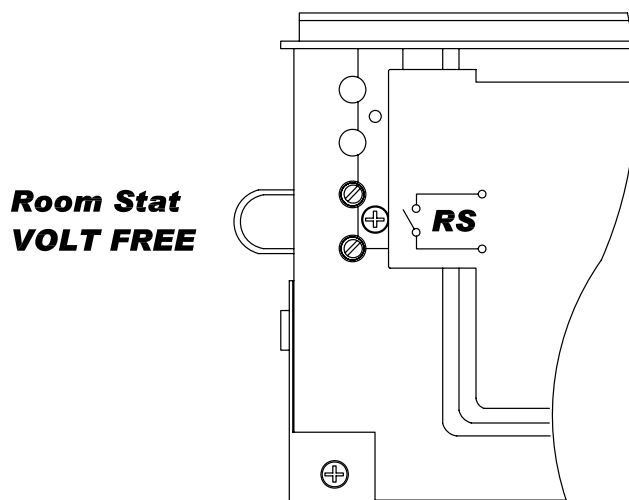

Fig. 59
**7.27.6** Replace in reverse order (ensure all electrical connections are made correctly) (Fig. 59).
**7.28 EXTERNAL HEATING CONTROLS (Fig.59).**